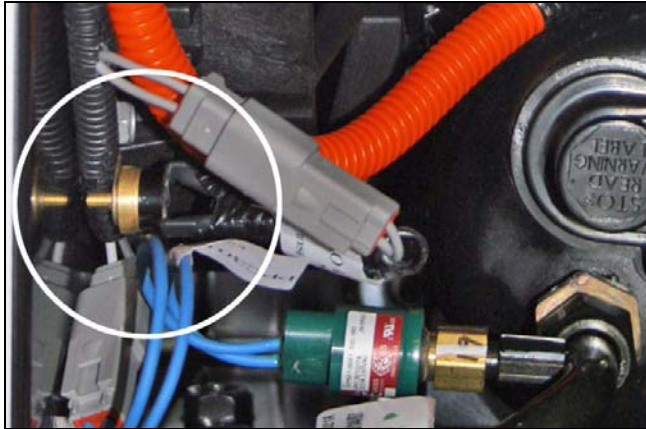

Figure 40. Ambient temperature switch
2. Locate the ambient temperature switch. Refer to Fig. 40.